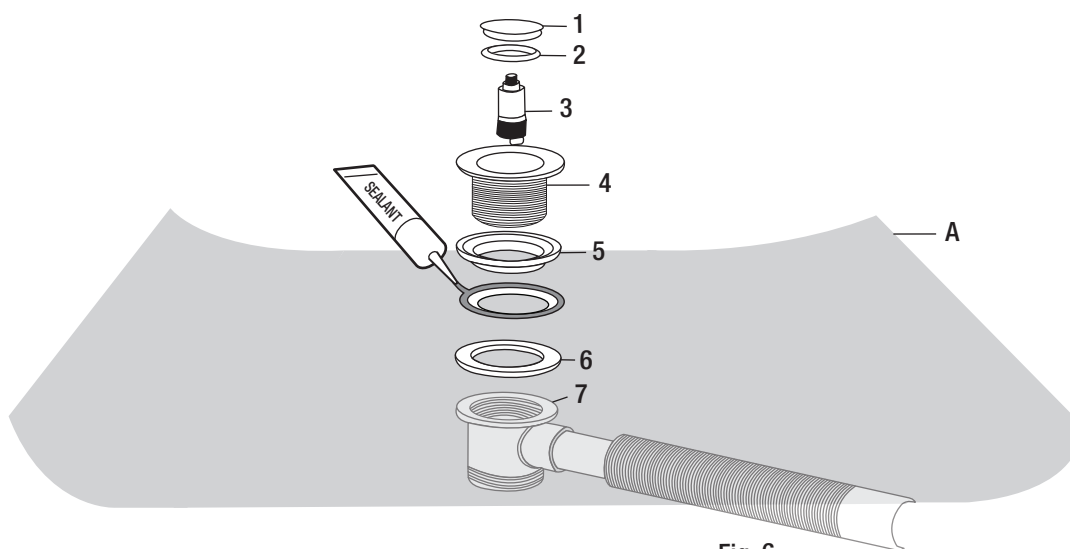

Fig. 6
- Place the supplied gasket (6) between the drain (7) and the bottom of the tub (A). Apply sealant around the tub drain (7) opening as well as inside the tub opening to seal the area. Place the drain collar (5) into the tub drain opening (7) and wipe away any excess sealant. Screw the drain cover through the collar (5) and into the main drain (7). Insert the drain plug (1, 2 & 3) into the drain pipe (4). See Fig. 6.